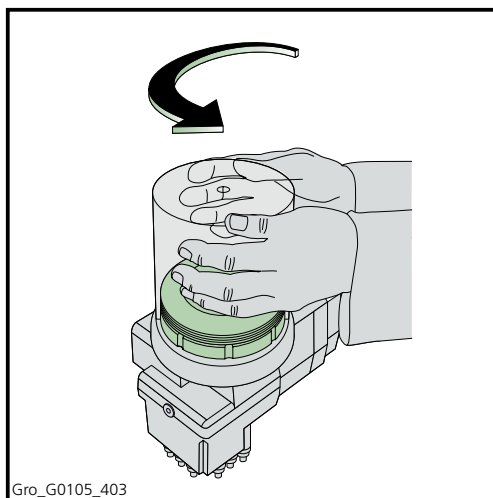

Figure 4.4 Removing the protection cover
1. The transparent protection cover (Figure 4.4) has a bayonet catch. Turn the cover anti-clockwise and lift it off the pump unit.